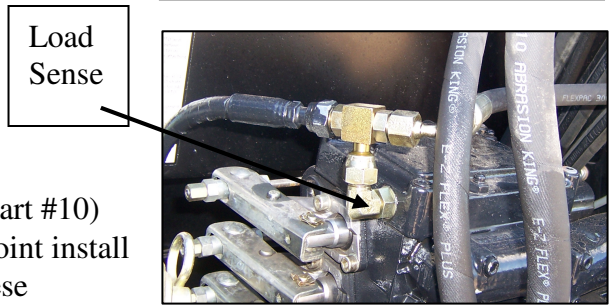

Fig 1-5
11. Route the 26" load sense hose (Part #24) to the proper port on the loader valve, install adapter (Part #15) for load sense in to the tractor **See in Fig. 1-6**, if your tractor has a hose to the load sense port use adapters and shuttle tee (Part #15,18, 22, 11 & 12). **See in Fig. 1-5.**